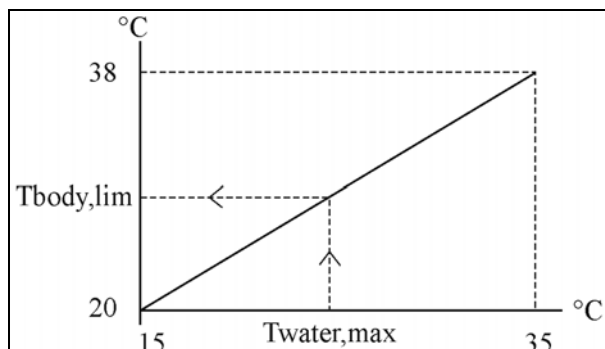

Figure 2
- $T_{body,lim}$ = body temperature corresponding to $T_{water,max}$, according to Figure 2